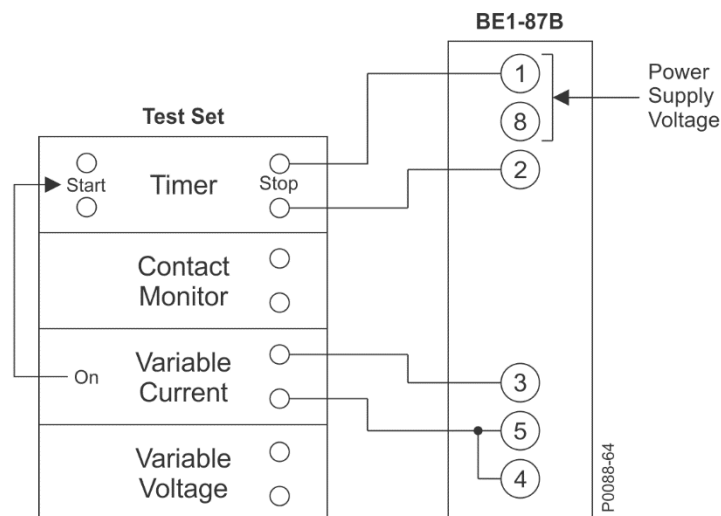

Figure 18. Trip Time Test Setup
1. Connect the test circuit as shown in Figure 18. The test set timer should be set to start on the application of current and stop on Trip contact (relay terminals 1 and 2) closure.
2. Connect the test circuit as shown in Figure 18. Configure the test set timer to start on the application of current and stop on closure of the relay Trip contact.